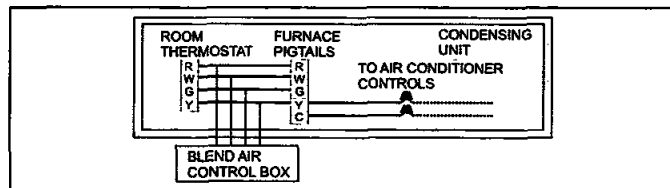

FIGURE 19: Wiring for Blend Air Accessory
- Connect thermostat wires to the furnace when installing blend air accessory as shown in Figure 19.